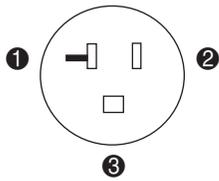

Figure 1. Wall outlet requirements for North America
- A dedicated outlet (Figure 1) and a 20 A circuit breaker must provide power to the library only. It is necessary to use a harmonized 3 x 1.5 mm² power cord that is approved by the associated country of use, and to install the appropriate wall outlet. For important safety information about hp products and power cords, refer to the *Important Safety Information* booklet.